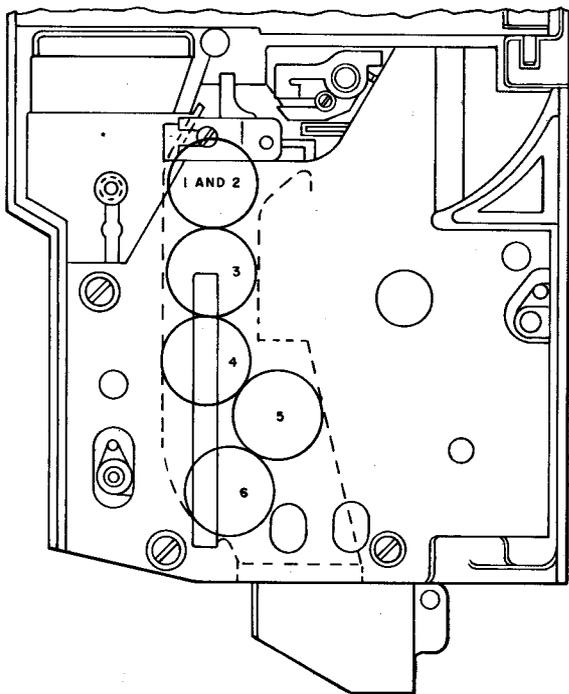

Fig. 35—Lower Portion of Coin Chute With Six Dimes Jammed
Note: Several conditions can be encountered with dime jams. Most jams involve only two or three dimes but others may involve as many as six dimes blocked at both ends as shown in Fig. 35, with the top two overlapped.
- (d) If two dimes are completely overlapped as shown in Fig. 35, proceed as follows: